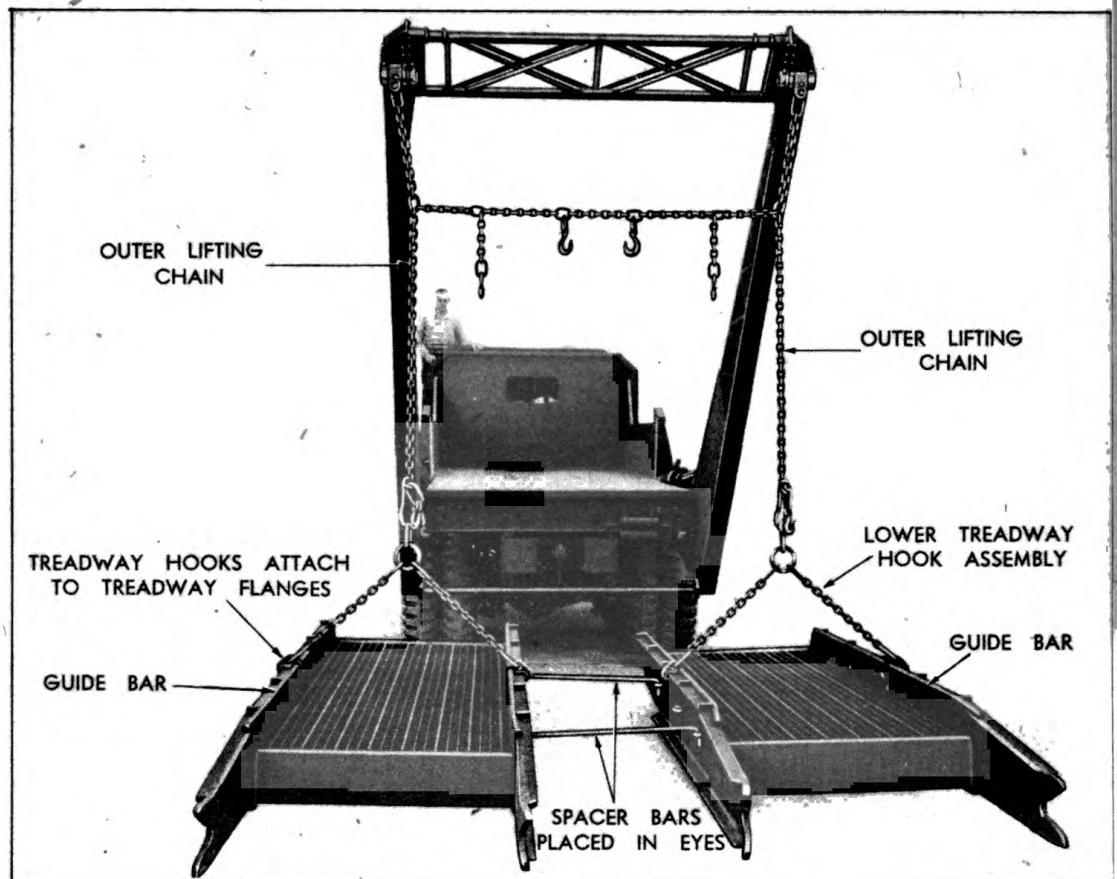
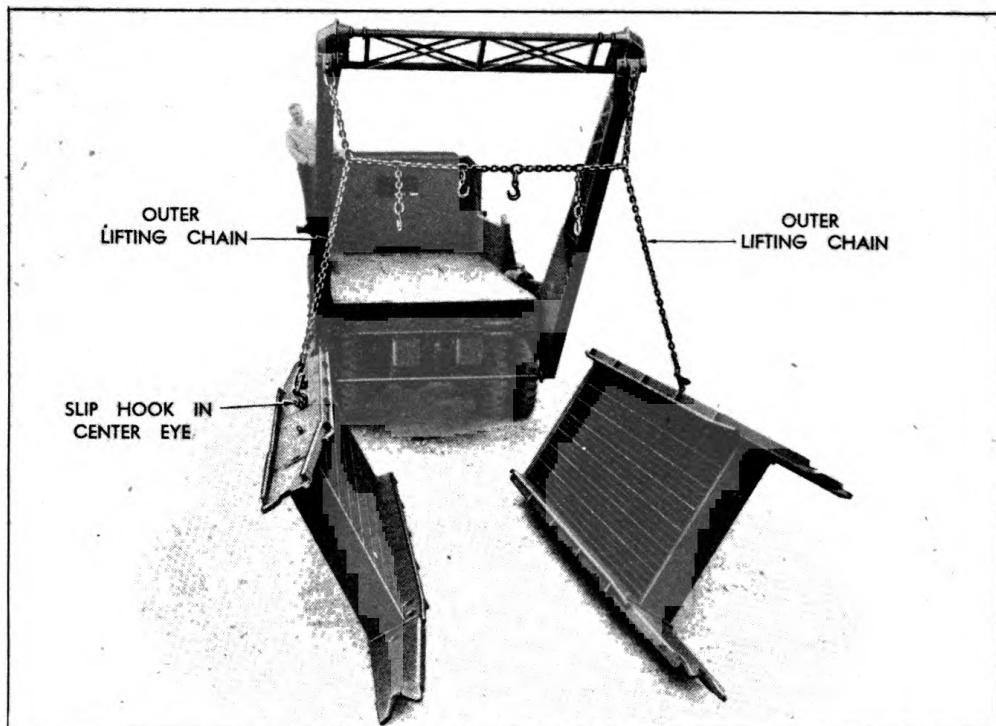

Figure 23. Treadways Properly Spaced with Bars. Note Chain Arrangement
Figure 25. Using Slip Hooks to Stand Treadways on Edge for Loading
(3) Raise the boom until the treadways swing freely and they will hang in the proper position for inserting the spacer bars. Each pair of treadways are connected by two spacer bars. These bars are inserted through eyes located toward each end of the sides of the treadways. See Figure 23.
(1) To load the treadways in the truck, remove the spacer bars, Figure 23, and attach the slip hooks on the outer lifting chains to the center eyes located on the outer sides of the treadways. Raise the boom to stand the treadways on edge. See Figure 25. DO NOT use the lower treadway hook assemblies for this operation!